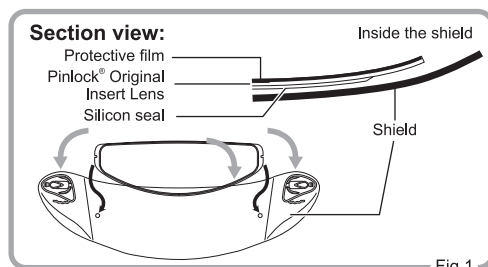

Fig.1
1. Apply the silicon seal side of the Pinlock® Original Insert Lens on inside the shield, without peeling off the protective film on the lens. At the time, apply the Pinlock® Original Insert Lens on inside the shield by clicking it into the eccentric pins. (Fig 1 and 2)